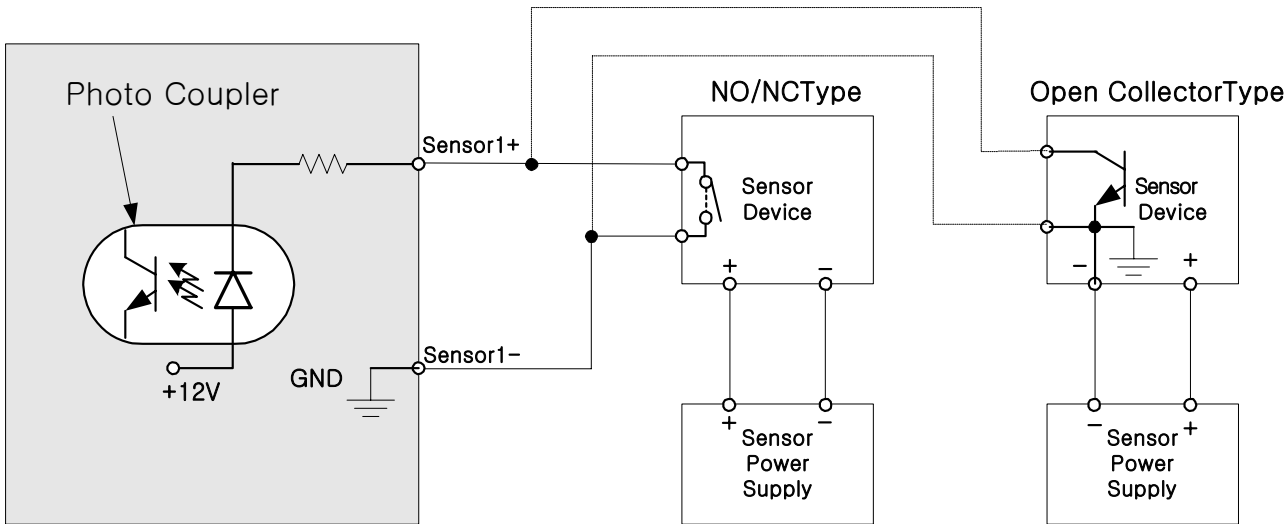

Fig. 6-4 Connection of Sensor to Network Domes
3.1 Connection of Sensor (Fig.6-4)